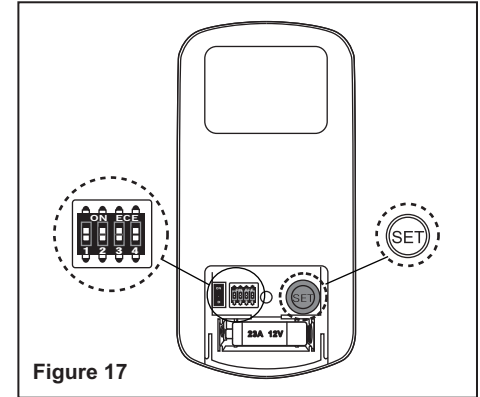

Figure 17
a) Select desired frequency from the transmitter. The dip switches can be set to 16 different combinations. (Fig. 17)
b) From the back of the transmitter, with the fan's power off, restore power to the fan. Press and hold "SET" button for about 5 seconds and release. If optional light kit is installed, the light kit will flash twice and the signal light on the hand held transmitter will come on when the button is pressed. The fan has completed the pairing process with the remote control and is ready for use. (Fig. 17)